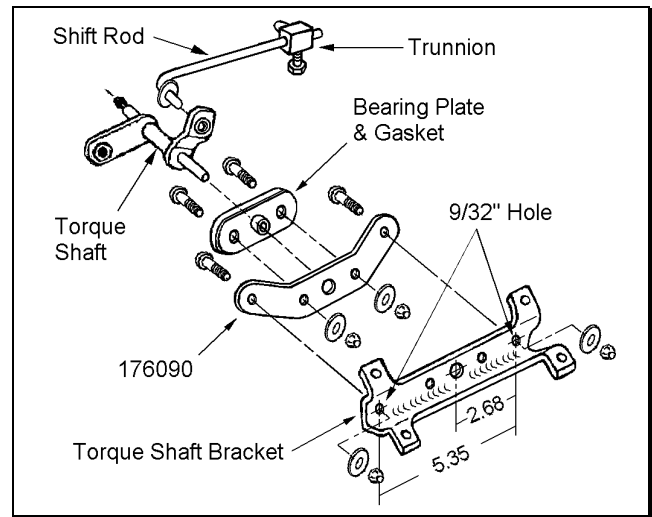

Figure 21
- 4)  Attach the bearing plate (with gasket) to shift relocating bracket 176090 as shown in figure 21.
- 6)  Attach the shift relocating bracket 176090 to the torque shaft bracket with the hardware from kit 860160. See figure 21.